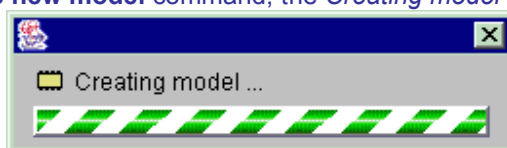

Figure 74 : Creating model bar graph
- ♦ Click on the **Create new model** command; the *Creating model* bar graph (Figure 74) is displayed